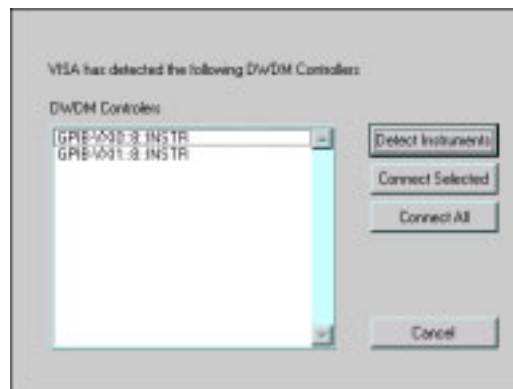

Figure 2-9. Instrument Found
2. Click on the **Detect Instrument** button to detect all VISA configured instruments connected to the external controller as shown in Figure 2-9. (In this case VISA has detected 2 DWDIM Controllers, GPIB-VXI0::8::INSTR and GPIB-VXI1::8::INSTR.)